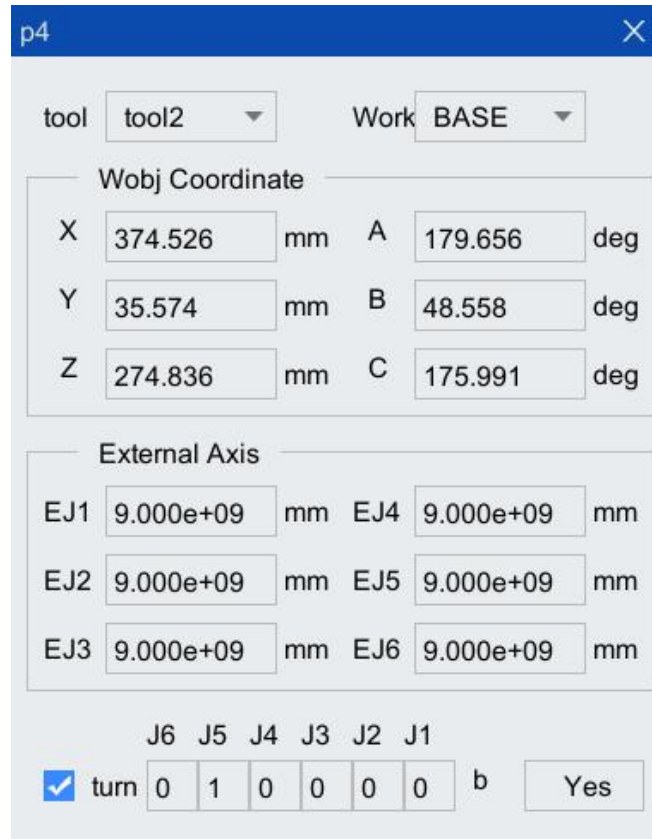

Figure 5-17 "p" variable display box
Step2. Click <...> button after the position variable p to pop up "p" variable display box in Figure 5-17, which displays the position information of the current TCP of the robot body relative to the workobject coordinate system and the current position information of the external axis. The position is displayed but cannot be modified. Click <Yes> button, and then the current position information can be obtained automatically after the instruction is inserted.
Step3. Figure 5-17 As shown in , you can re-select the tool/workobject coordinate system, or select or cancel the turn value. After clicking <Yes> button, the parameters t and w in the PTP instruction box will display the currently selected tool or workobject coordinate system (see Figure 5-18); if you want to modify it, you must complete the modification through "Revise Cmd" or "Get pose" in the toolbar of the program editor.